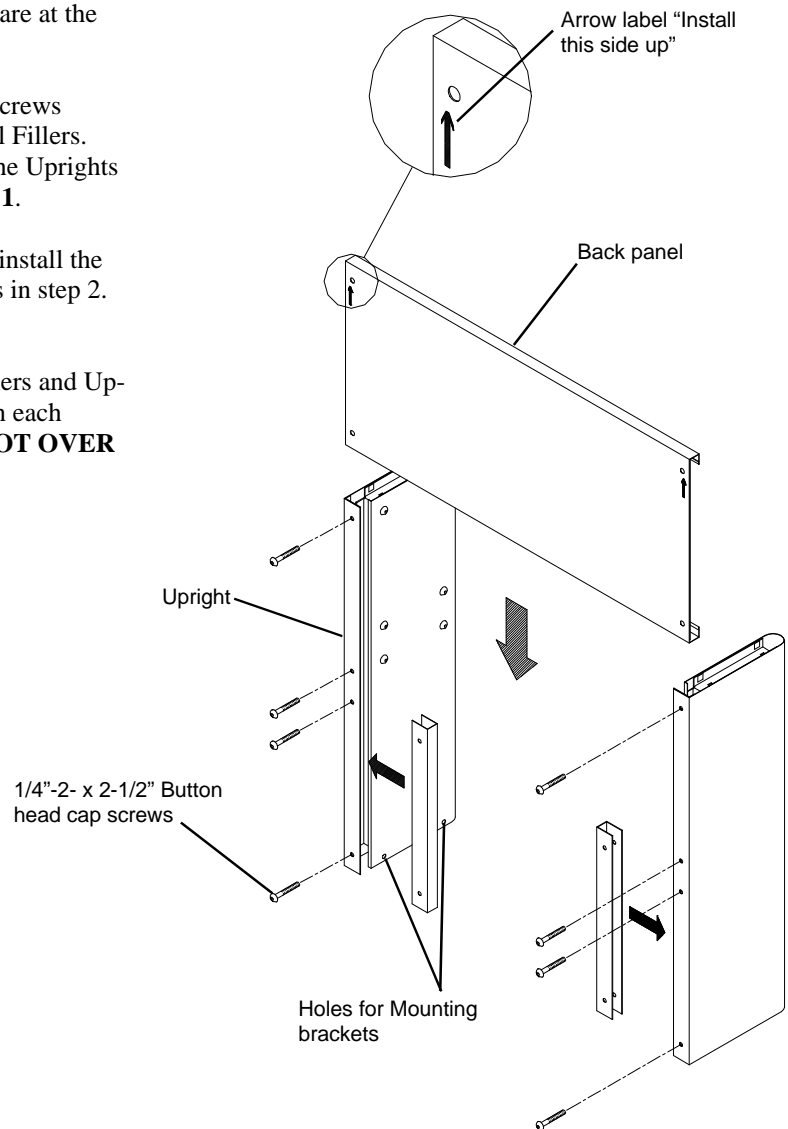

Figure 1
1. Carefully insert the **Channel Fillers** into the **Uprights**. Be sure that the holes for Mounting Brackets are at the bottom of the Uprights. See **Figure 1**.
2. Install the 1/4"-20 x 2-1/2" Button head cap screws through the Uprights and through the Channel Fillers. Thread the screws in until their heads touch the Uprights (snug fit). **DO NOT TIGHTEN**. See **Figure 1**.
3. Slide the **Back Panel** down from the top and install the button head cap screws in the same fashion as in step 2. See **Figure 1**.